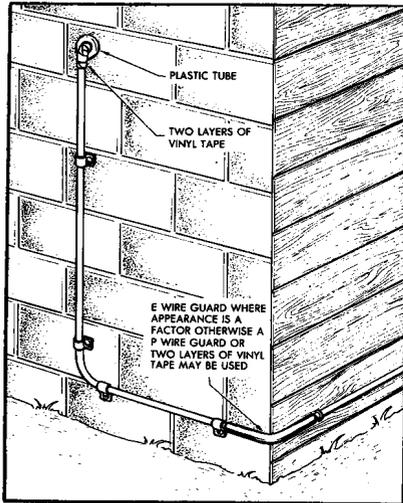

FIGURE 2. Use of Vinyl Tape or E Wire Guard on Station Wire
- b. P wire guard, plastic tube, or two layers of vinyl tape shall be used in all cases where telephone wiring is subject to abrasion or mechanical damage. E wire guard (plastic tubing) may be used in place of vinyl tape or P wire guard on station wiring within buildings where improved appearance is desired. See Figure 2.